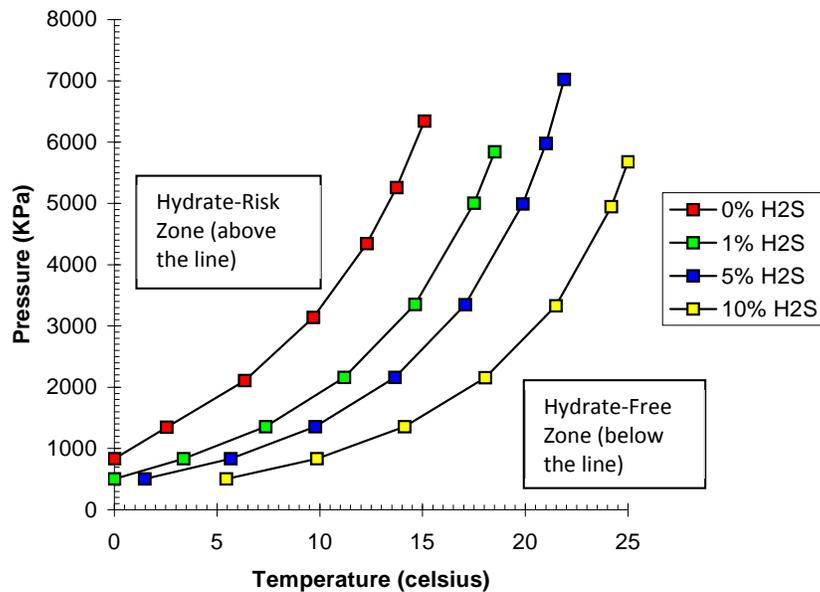

Figure 1: Hydrate Formation Curve
- Equally depressurize the equipment on both sides of the hydrate to below the hydrate formation curve, allowing no more than 10% pressure differential across the hydrate, if possible (see Figure 1).
- Equally depressurize the well site equipment on both sides of the hydrate to below the hydrate formation curve, allowing no more than 50% pressure differential across the hydrate, if possible (see Figure 1).
- Equally depressurize the pipeline on both sides of the hydrate to below the hydrate formation curve, allowing no more than 10% pressure differential across the hydrate, if possible (see Figure 1).
- After the well has stabilized and the methanol has flowed up the production string, increase the gas flow from the well in order to increase the temperature and decrease the pressure of the gas to below the hydrate curve, if possible (see Figure 1).